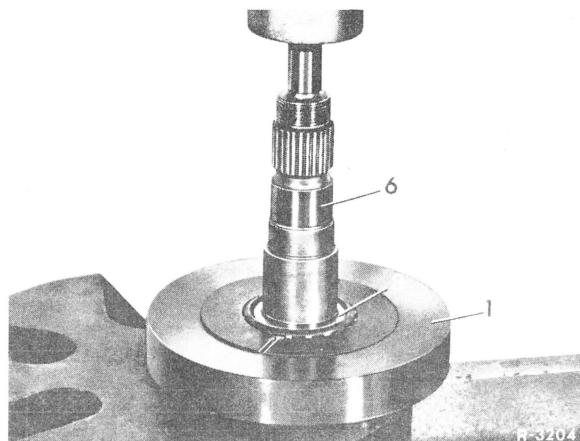

Fig. 7
**8** Press rear tapered roller bearing inner race from drive pinion by means of pressing-off tool (Fig. 7).